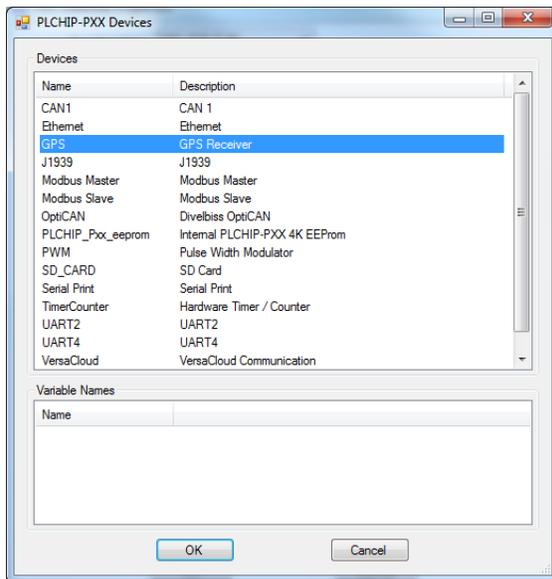

Figure 2-43 - PLCHIP-PXX Devices - GPS
- Click / select **GPS** (highlight). Refer to Figure 2-43. Click **OK**. The GPS Properties window will open identifying UART2 as the interface for the GPS. Click **OK**.